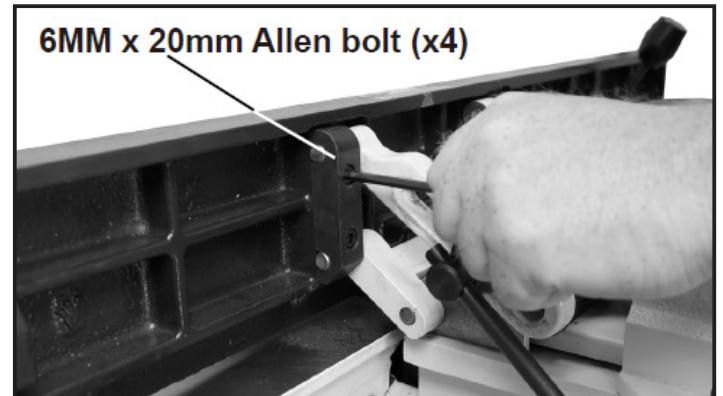

FIG.5.4.4
- Mount the Fence to the Fence Angle Bracket Assembly by using two M6 x 20mm Allen bolts. FIG. 5.4.4